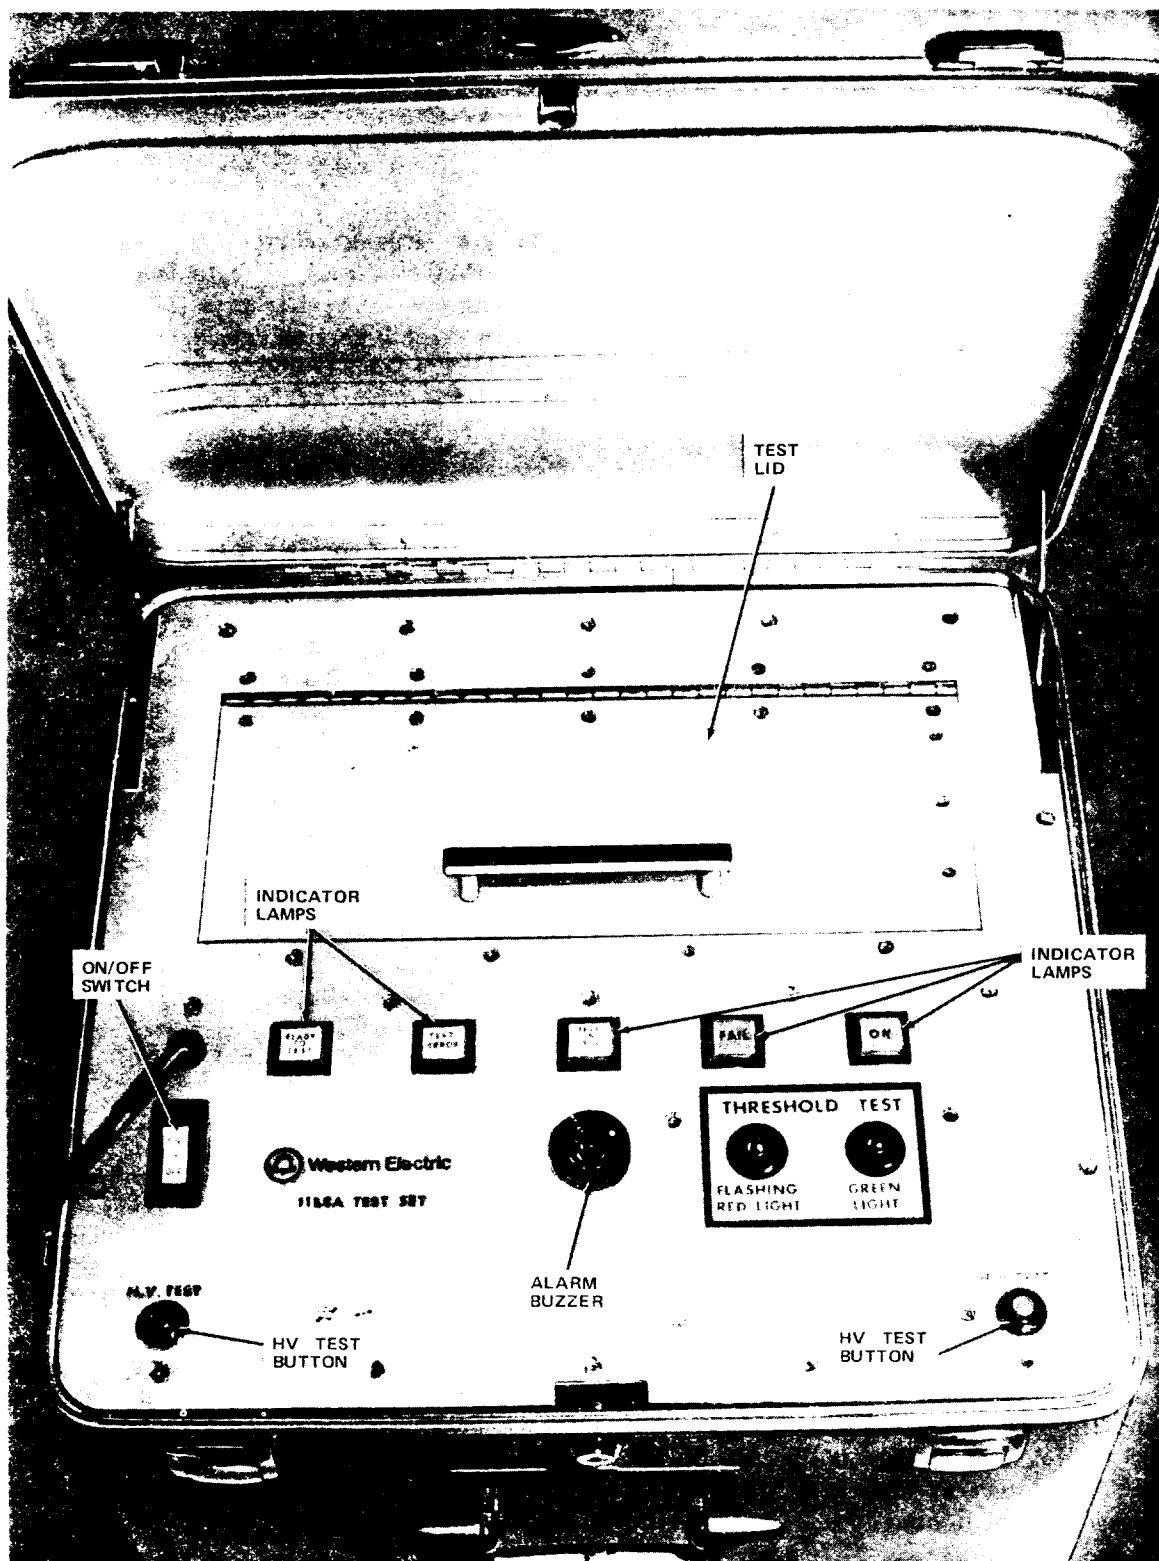

Fig. 2—Front Panel
3.01 The 1188A test set is portable and operates on 110-120 Vac 60 Hz. The test set is housed in a case designed for transporting or shipping without the use of other containers. The test set weighs approximately 39 pounds and is 18 inches wide by 12 inches high by 18 inches long. The power cord is stored in the cover of the test set. All controls and indicators are located on the front panel (Fig. 2). There are no internal controls or adjustments to be made.